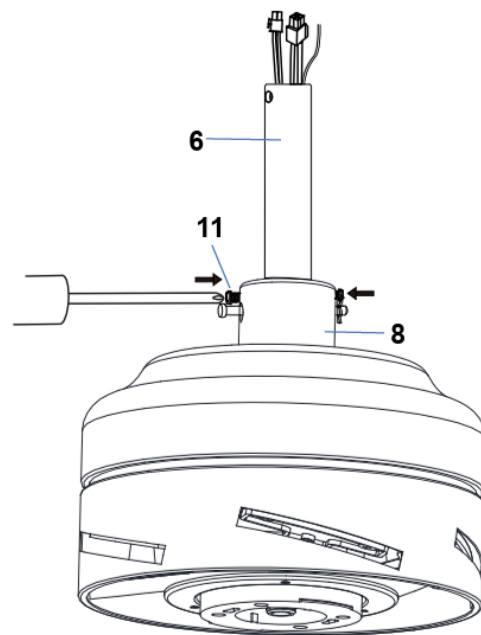

Fig. 4.4
5. Secure the down rod (6) by tightening the set screws (11). (Fig. 4.4)